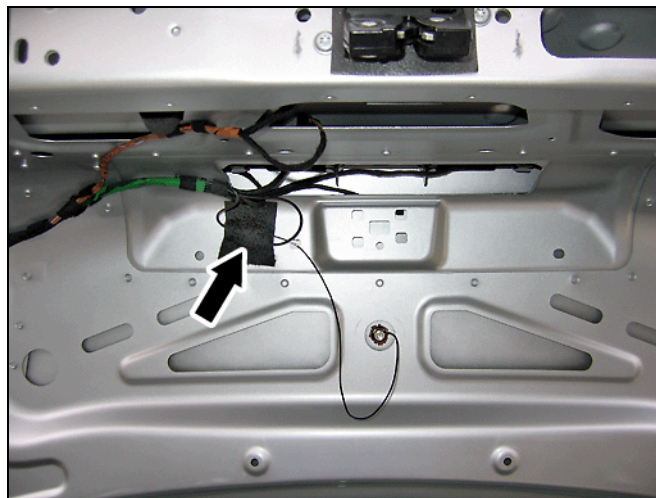

Figure 6
9. Secure the coupled antenna leads, unused antenna connector, and loose cabling to the trunk lid underside with felt tape (Figure 6).